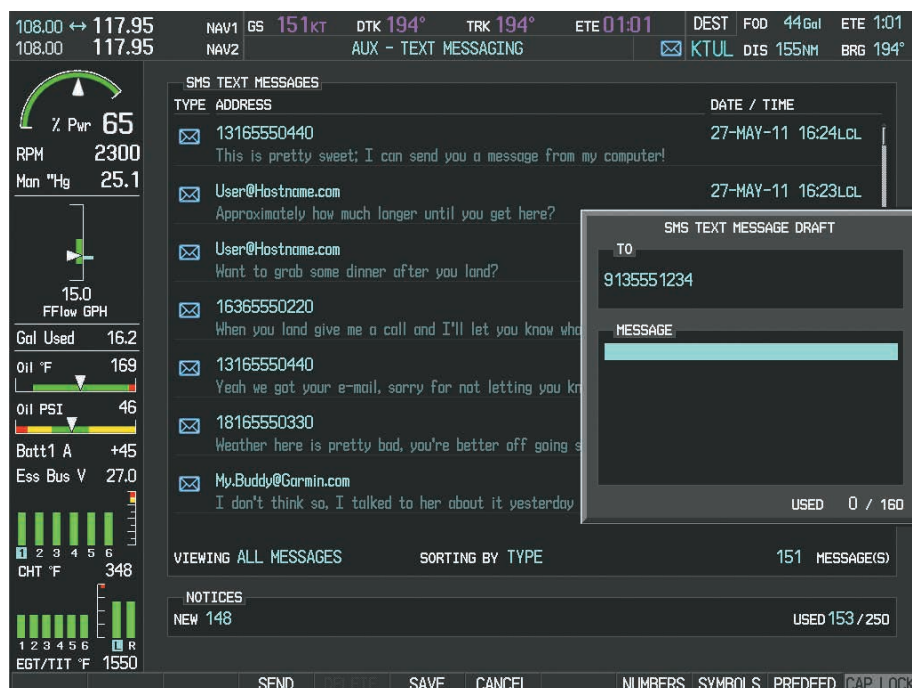

Figure 8-100 Sending a Predefined Text Message
- 3) Press the **ENT** Key. The cursor is now displayed in the 'MESSAGE' field (Figure 8-100).